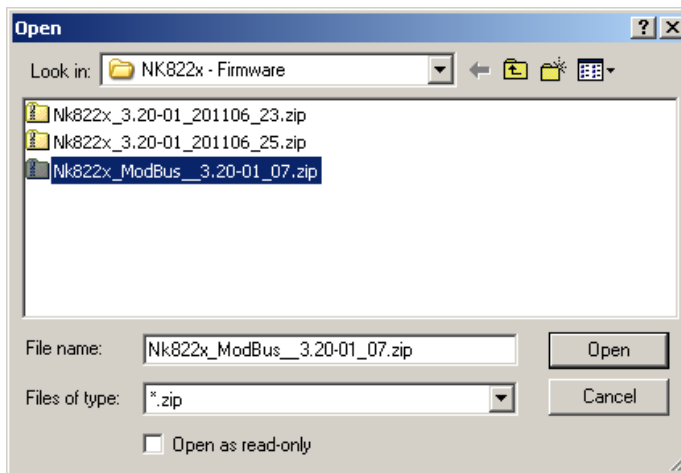

Fig. 19 Opening the new NK82xx firmware files
- And finally click **Open** (Fig. 19).
In case multiple add-on packages have been installed, then all the associated firmware files can be safely downloaded in sequence (each of them being a single additional DLL) as long as the base NK82xx version is the same (e.g. ...4.10...). Please check the firmware version in the firmware list (Fig. 19) before selecting the file to download. Also, get informed about latest compatibility issues in the most recent NK8000 Release Notes.